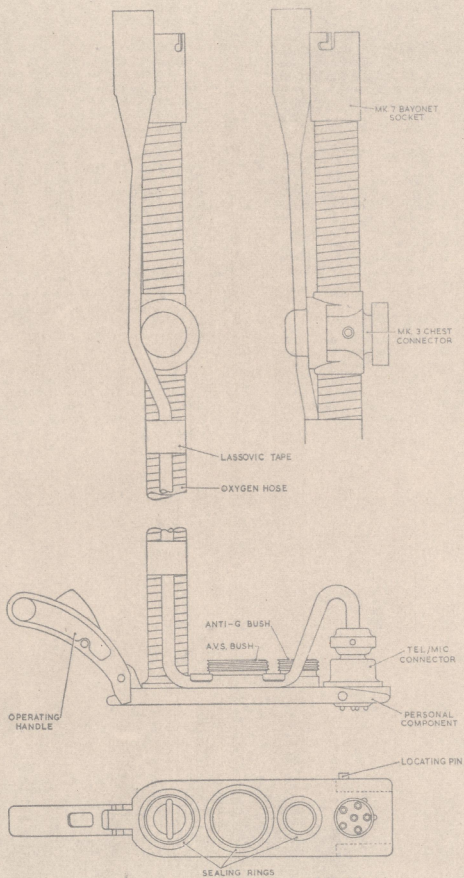

Fig. 3. Details of personal component (high altitude)
19. The high altitude type of P.E.C. is basically similar to the one previously described; the aircraft and seat portions are similar but the personal component (fig. 3) incorporates a Mk. 3 chest connector in the oxygen hose. This is connected to the pressure jerkin for the purpose of applying pressure to the seat occupant's trunk and also acting as an oxygen reservoir.